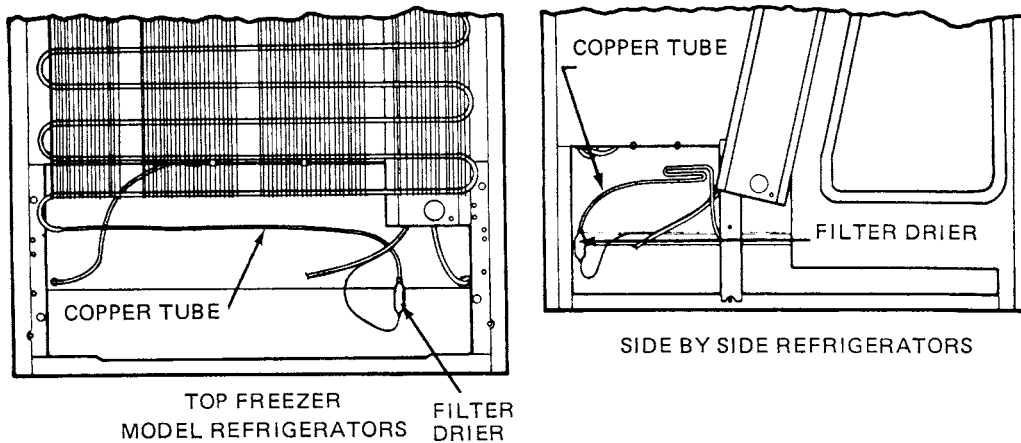

Fig. 12-19 Side-by side and top-freezer model refrigerator filter-drier location. (Kelvinator)
8. Score the capillary tube and remove the filter drier. Use a copper tube and the filter drier to connect the condenser to the capillary tube. See Fig. 12-19.
10. Remove the wiring cover from the back of the cabinet. Disconnect the power cord from the cabinet harness. Connect the adapter harness to the cabinet harness and power cord. See Fig. 12-19.
12. Cut the adapter harness and heater lead to the proper length. Connect the adapter harness to the heater with connectors. Secure the leads to the suction line. Reinstall the wiring cover. See Fig. 12-19.